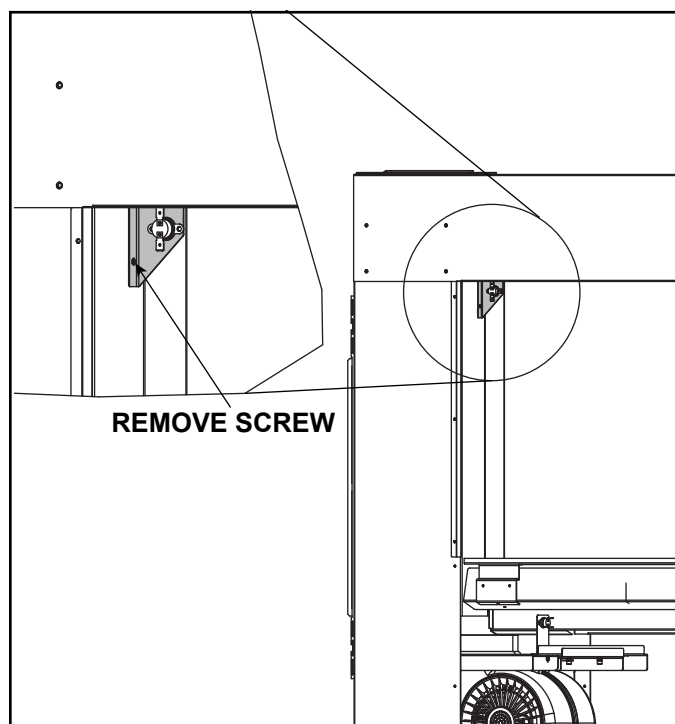

Figure 4.2 High Temperature Limit Switch Installed Correctly
1. Remove the firebox glass high temperature limit switch assembly by removing the machine screw holding the bracket in place and set the assembly aside. See Figure 4.2.
6. Reinstall high temperature limit switch assembly and attach wire connections. See Figure 4.2.
2. Ensure that high temperature limit switch is installed correctly with wires connected. See Section 11 of appliance Installation Manual for installation instructions. See Figure 4.2. Verify that wires are not pinched by the transition media tray.